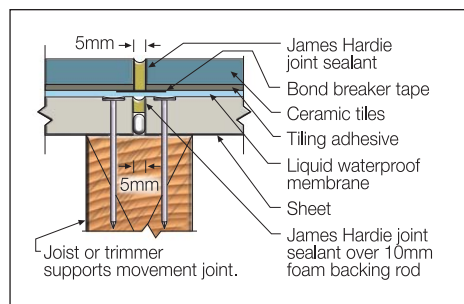

FIGURE 4 DIRECT TILE - TILE MOVEMENT JOINT OVER SHEET MOVEMENT JOINT
- All sheet control joints must carry up through the tiles, see Figure 4.
- If additional tile control joints are required, these should coincide with sheet edges. See Figures 4 and 4B. Refer to relevant tile codes for recommended tile control joint spacing.
2. When tiling direct to sheets, do not tile over butt joints, see Figure 4.